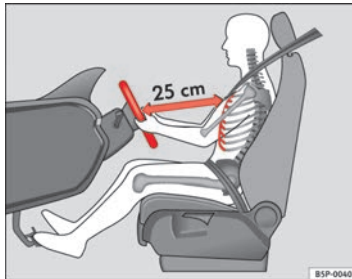

Fig. 1 The proper distance between driver and steering wheel
- Adjust the steering wheel so that there is a distance of at least 25 cm between the steering wheel and the centre of your chest ⇒ Fig. 1.
- Adjust the driver seat so that there is at least 25 cm distance between the centre of the chest and the centre of the steering wheel ⇒ Fig. 1. If you are sitting closer than 25 cm, the airbag system cannot protect you properly.